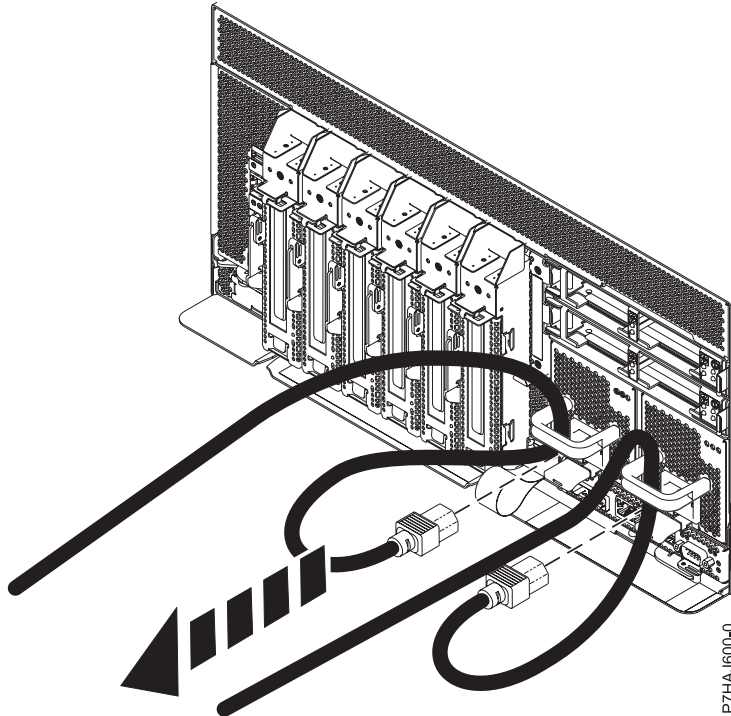

Figure 15. Removing the power cords
3. Disconnect the power cords from the system unit as shown in Figure 15 on page 27.